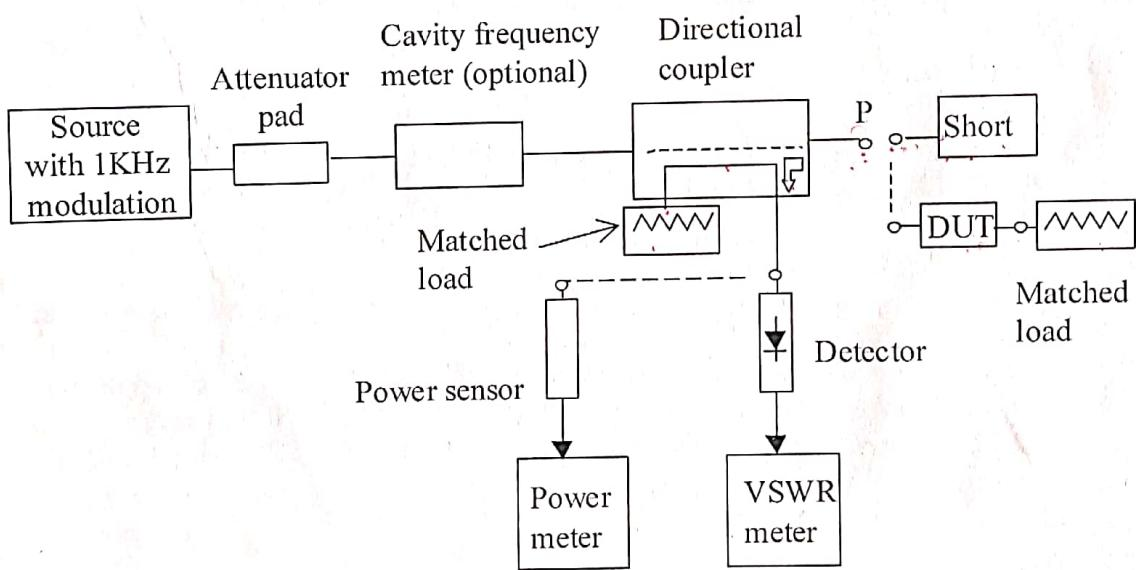

Fig. 7.2 Test bench set up for measuring the reflection loss of DUT
1. Assemble the set up as shown in Fig. 7.2.